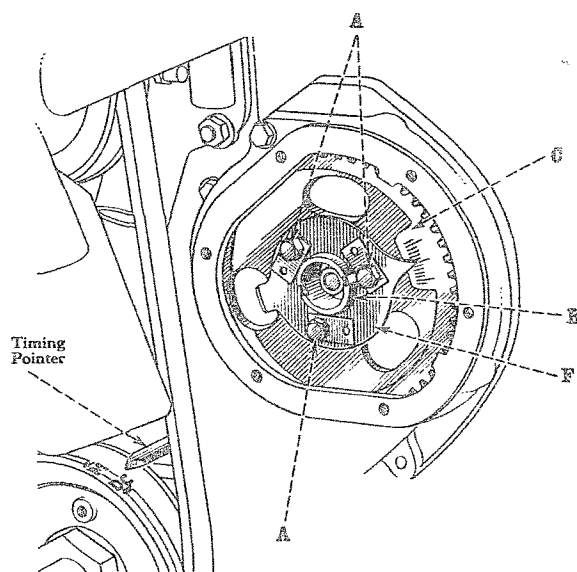

Figure 66F. Timing the Fuel Injection Pump to the UD-16 Engine
(8) Remove three cap screws (A), Fig. 66F, which secure the timing indicator (F) and pump gear (C) to the gear hub (B); then lift off the timing indicator.
(1) Crank the engine until the No. 1 cylinder is at top dead center of the compression stroke. This position can be determined by removing the spark plug, placing a thumb over the opening, and cranking the engine until an outward pressure can be felt by the thumb. Continue cranking slowly until the notch marked (DC) on the damper, Fig. 66F, is in line with the timing pointer in the front crankcase cover.
(2) The pump drive gear cannot be removed through the opening in the front cover, and cannot fall out of mesh with the idler gear. This gear should be supported so it can turn without binding in the gear case during installation.
(3) Assemble a new gasket to the pump mounting flange. Lift the pump into place against the crankcase front cover, inserting the pump gear hub into the pump gear and lining up the notch in the gear hub with the notch on the front face of the gear.
(4) Secure the top of the pump mounting flange to the crankcase front cover with two cap screws. Secure the base to the bracket with two cap screws.
(5) Assemble the timing indicator to the gear hub. Tighten three cap screws which secure the indicator and the gear to the gear hub.
(6) Use a hand crank to turn the engine, and align three large holes in the pump gear with the cap screw holes behind
(UD-16 Engine) (See Fig. 66F)
(2) The adjustment is normally set with the point of the indicator on the center mark of the graduations on the pump gear. In order to be sure of the best operating conditions, the indicator can be tried on either side of the center mark and set at the best operating position.
(3) To change the location of the point of the indicator (F), Fig. 66F, loosen the cap screws (A) holding the indicator and the gear hub (B) to the gear (C), and turn the gear hub (B) until the point of the indicator is at the desired position; then tighten the cap screws (A).
(4) For advanced position, turn the gear hub clockwise and, for retarded position, turn the gear hub counterclockwise. The correct adjustment has been obtained when the engine speed is maximum for a fixed load and the engine operation is smooth with a clean exhaust.